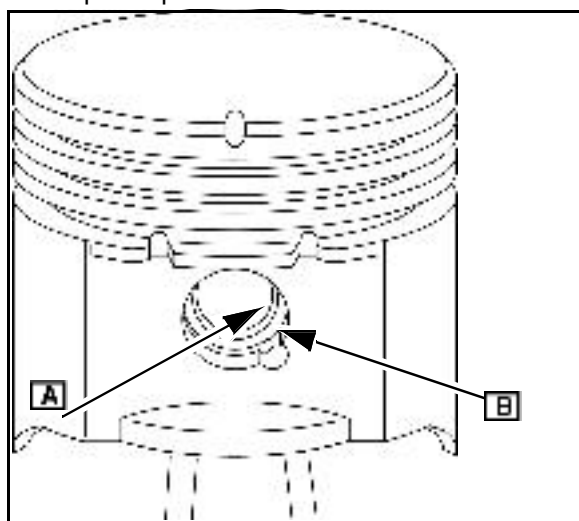

Fig. 5
1. Rotate piston pin retainer (A) until one end is exposed in notch ([B] Fig. 5) of the piston pin bore.